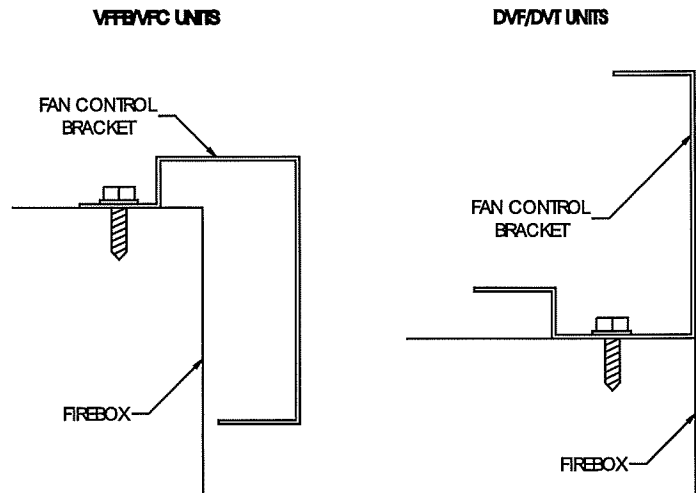

Figure 2
14. Refer to Figure 2 for fan control bracket location that applies to your firebox. Align clearance hole on fan control bracket with screw hole on firebox top. Attach fan control bracket to firebox top with one (1) screw from Step 13.